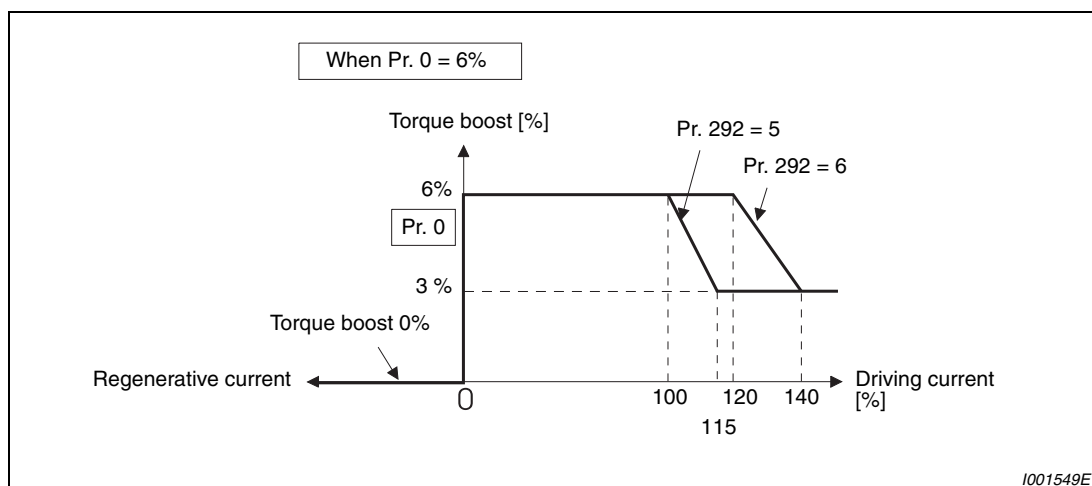

Fig. 6-63: Torque boost in dependence of the output current
- Enough torque is generated during power driving and the torque boost value is automatically changed during regeneration and operation without load (refer to Fig. 6-63) so that overcurrent protection function does not activate due to over excitation.